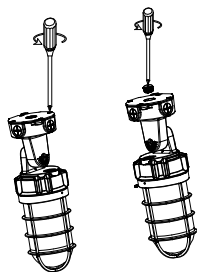

Figure 17
2. Loosen the 4 screws and remove the 1/2 end cap (Figure 17);